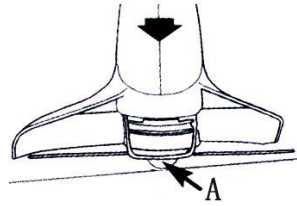

Fig.3B
4. To automatically lengthen or advance the nylon cutting line, tap the spool bump knob (A) lightly on ground (while the unit is running) (Fig.3B)
Caution: A short nylon line cuts less efficiently, to improve its operation on subsequent occasions, tap the spool button lightly on the ground while the trimmer is running. (Fig.3B)